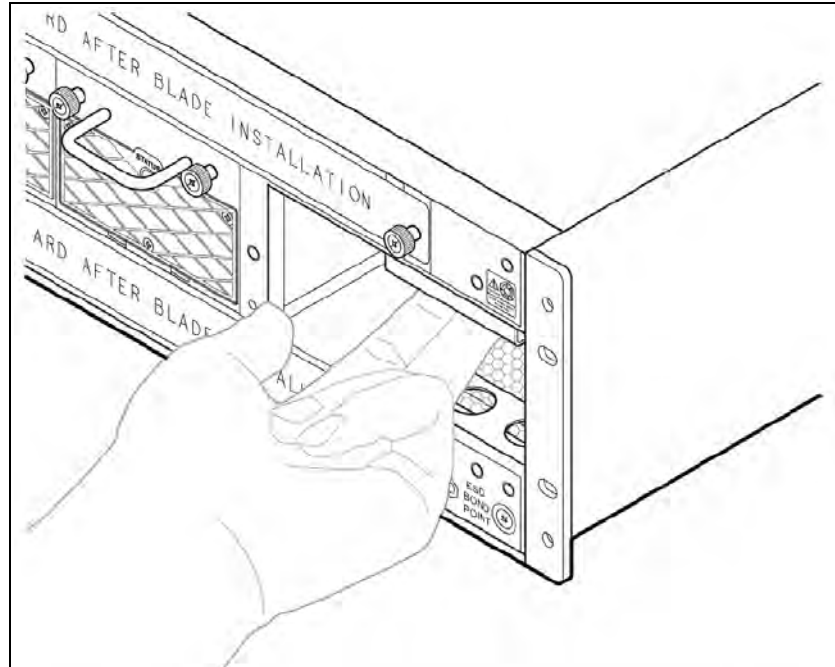

Figure C.9 - Top Air Filter Frame Removal
5. Insert two fingers in the round holes at the front of the air filter frame and pull it downward and out of its compartment (**Figure C.9**). If you cannot remove the frame with your fingers, you can also use a tool such as a screwdriver.